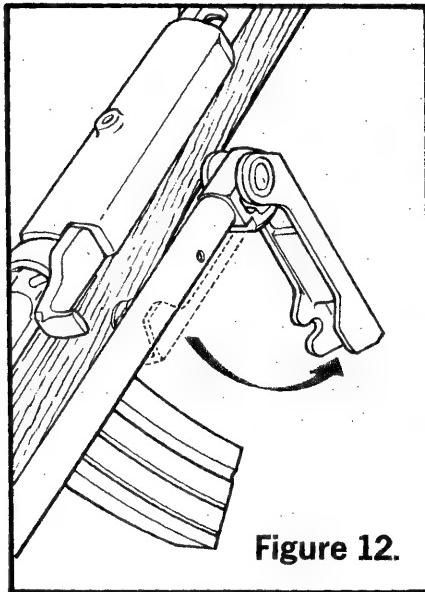

Figure 12.
1. Swing the Butt Plate downward until it latches in its open position (See Figure 12).